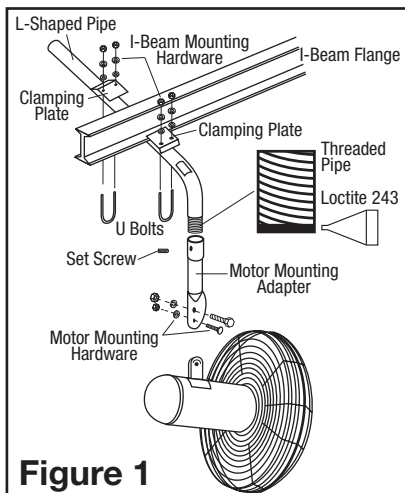

Figure 1
2. Apply (1) entire tube of Loctite #243 onto the first 2 threads on the end of the L-shaped pipe (Figure 1).
3. Screw motor mounting adapter into L-shaped pipe. The motor mounting adapter **MUST BE** screwed in at least 4 full revolutions. Do not allow Loctite #243 to dry before joining (Figure 1).
4. Rotate the motor mounting adapter back to desired location and tighten with the provided 1/4" set screw (Figure 1).
5. Locate the L-shaped pipe with attached motor mounting adapter to the desired location on the I-beam flange. Install the 5/16 x 2" U-bolts over the L-shaped pipe and through the clamping plate holes. The flat part of the clamping plate fits on the I-beam flange and the end with the slight bend goes against the pipe. Install flat washer, lock washer and nuts. Finger tighten the nuts on the U-Bolt (Figure 1).
6. Slide the clamping plate onto I-beam flange until U-bolts contact flange (Figure 1).
7. Adjust L-shaped pipe so forward clamping plate is as close to the label at the bend as possible (Figure 1).
8. Tighten nuts on bolt so L-shaped pipe does not move (Figure 1).